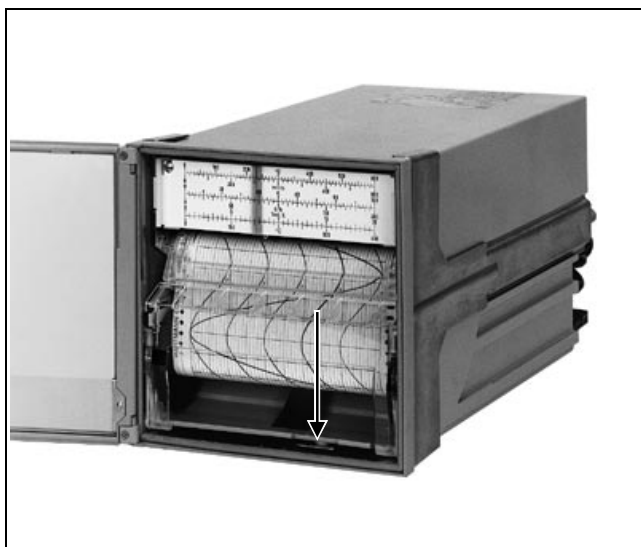

Fig. 6 Unlock the chart unit
1. Unlock the chart unit: push the pull-to-unlock lever downwards (see Fig. 6). The chart unit swings forward and can then be pulled out.
(see Figs. 6, 7 und 8)
1. Unlock the chart unit: press the pull-to-unlock lever downwards (see Fig. 6). The chart unit swings to the front.
1. Unlock the chart unit: Push the pull-to-unlock lever downwards (see Fig. 6). The chart unit swings forwards.